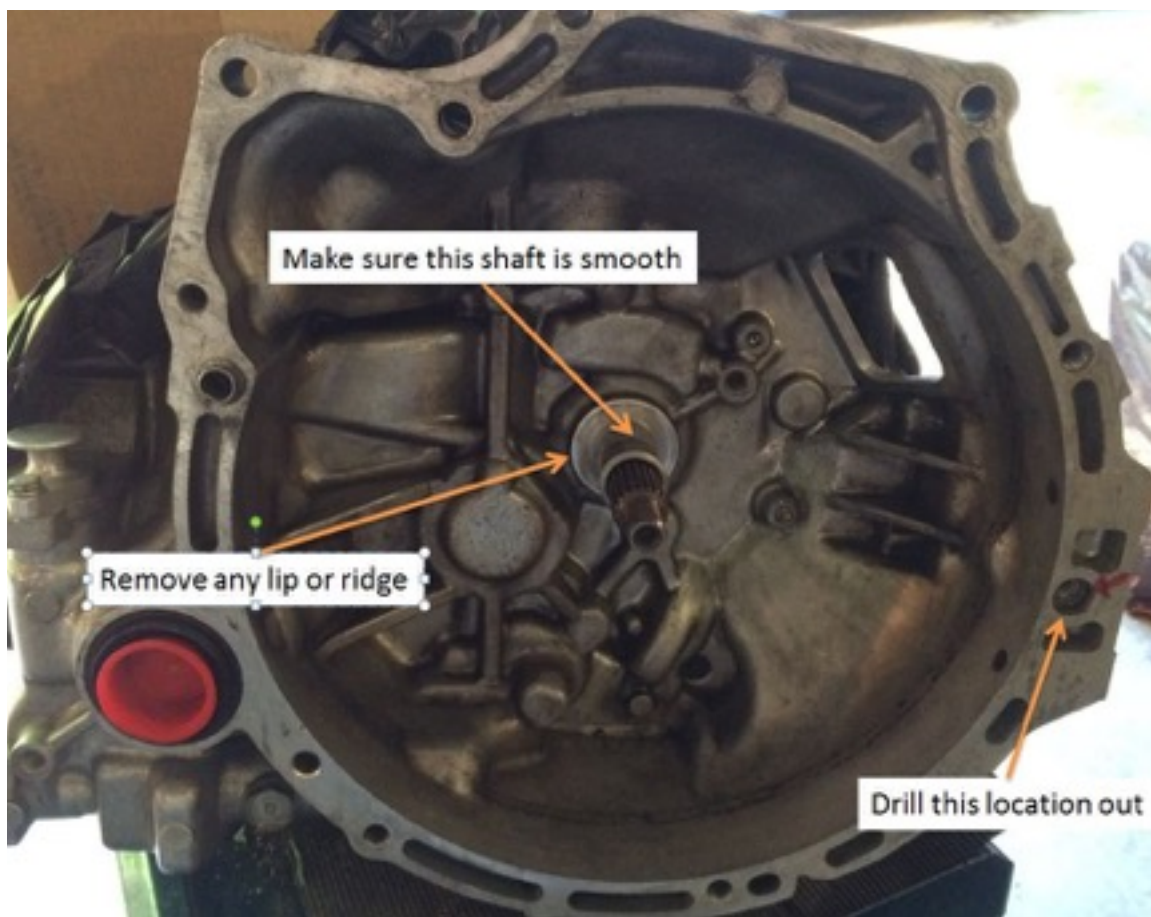

Figure 26 –Transmission Dowel Pin and T/O Tube
61. Start by looking at the gearbox from the 5th gear black (typically) sheet metal cover; locate the 8:00 position threaded bolt hole on the face that mounts the transmission to the motor. This is the dowel on the left side. See Figure 26
64. Locate the base of the T/O bearing guide tube and make sure it is smooth and burr free. (See Figure 26) Use emery cloth or similar to remove any fine burs or nicks.